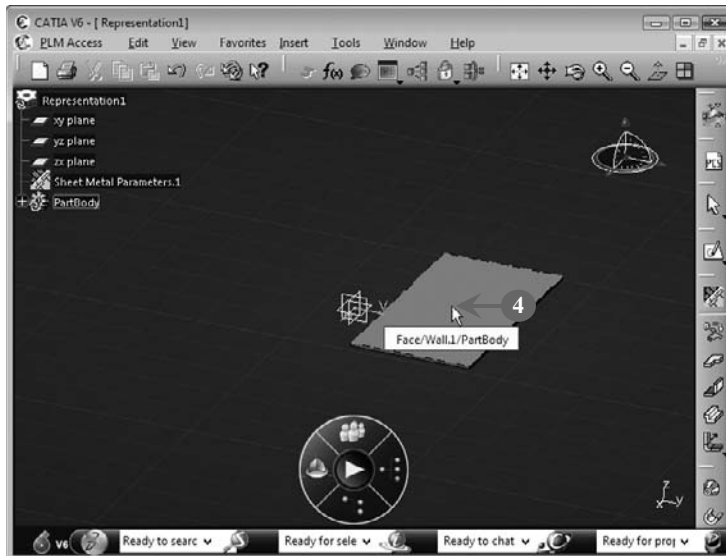

FIGURE 6.85
4. **Select a point on the base wall** where you want to create a hole, as shown in **Figure 6.85**: